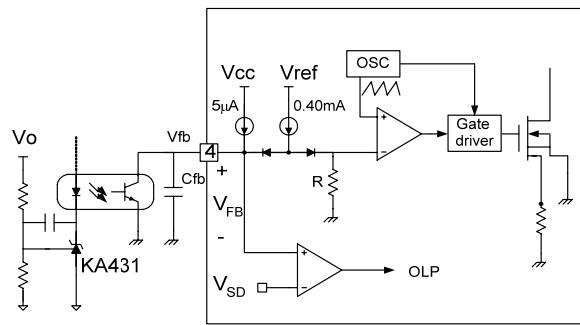

Figure 17. PWM and Feedback Circuit
2. Feedback Control: The FSDM311 is a voltage-mode device, as shown in Figure 17. Usually, an opto-coupler with shunt regulator, like KA431, is used to implement the feedback network. The feedback voltage is compared with an internally generated sawtooth waveform, which directly controls the duty cycle. When the KA431 reference pin voltage exceeds the internal reference voltage of 2.5V, the opto-coupler LED current increases, the feedback voltage V_{FB} is pulled down, and it reduces the duty cycle. This happens when the input voltage increases or the output load decreases.